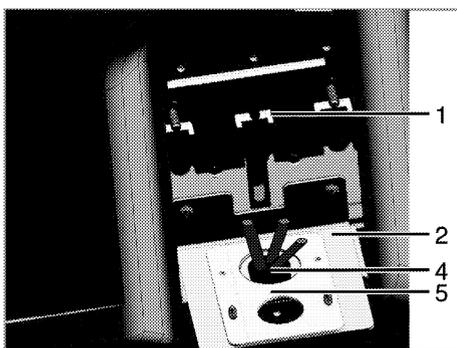
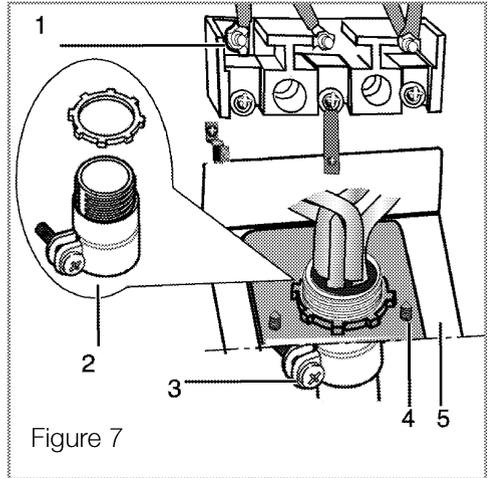

Fig.5
Figure 7
2 - Remove the Power Cord/Conduit Plate shown in Figure 5, by removing the two screws that secure it to the Range Bracket.
- 2 -Determine the size of conduit needed and if necessary remove the Power cord/Conduit Plate shown in Figure 7 and reverse the plate so that the proper size opening in plate for your conduit is directly over the 1-3/8 in opening in the range bracket Figure 5. Secure the Power Cord/Conduit Plate using the same screws that were removed to take the plate off.
- 3 - Secure the conduit to the Power cord/Conduit plate using a listed conduit connector or squeeze connector as shown in fig.7.